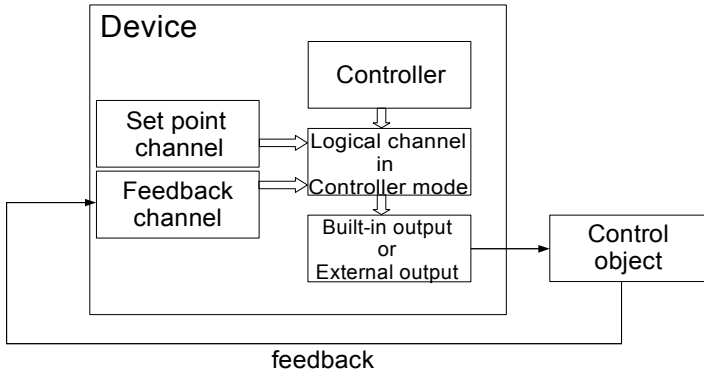
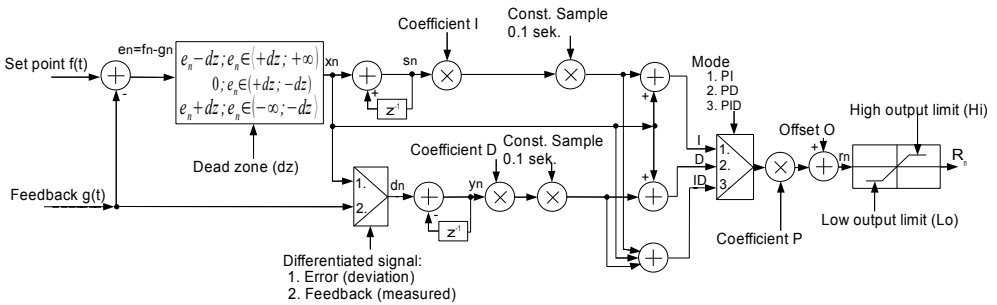

Fig. 7.90. Block diagram of the control loop of the object by MultiCon
Fig. 7.91. Block diagram of the **Controller** implemented in the device
- **Differentiated signal** - this parameter is available for **PD** and **PID** mode and allows the selection of the option (see Fig. 7.90 and Fig. 7.91):
In Fig. 7.90 shows the block diagram of a control process of an object with the **Controller** implemented in the device. Set the setting of the selected Controller to be connected to the **Logical channel** operating in the **Controller** mode. In this **Logical channel**, select a **Set point channel** and the **Feedback channel**, which store the data required to control the object. Respectively, **Set point channel** contains a destination value of the process, while the **Feedback channel** includes the value of feedback coming from the object controlled. MultiCon uses data collected from these channels and the corresponding Controller controls the object.